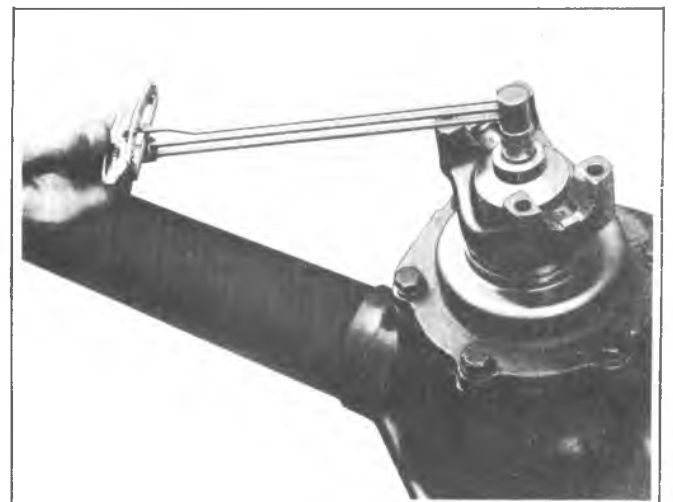

Fig. 15E-Measuring Rotating Torque
b. Tighten pinion nut to approximately 350 ft. lbs., then take a torque reading as shown in figure 15E, using J-5853.